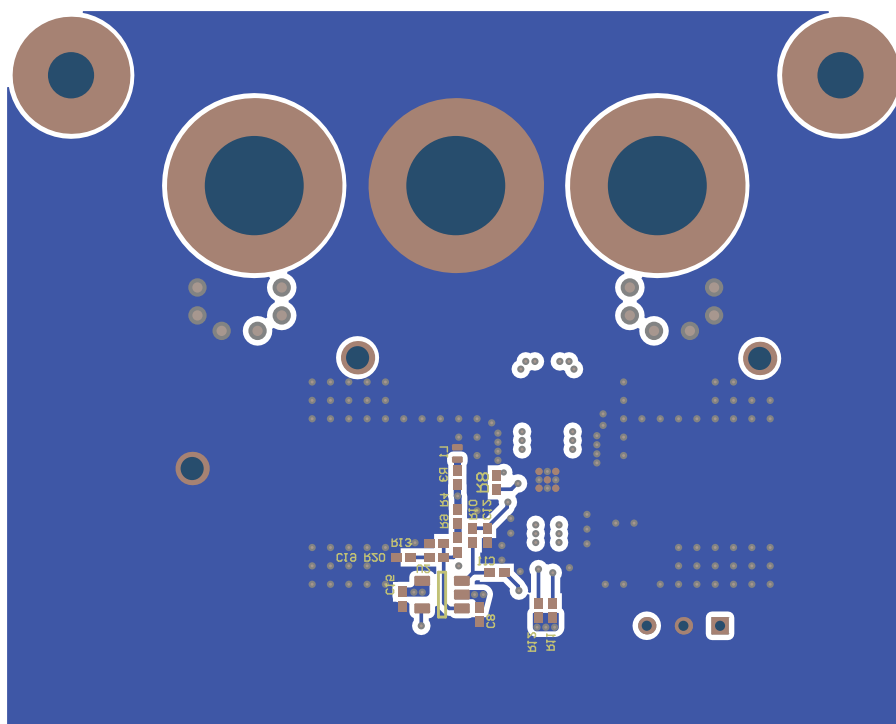

Figure 8-12. Layout Example: Bottom Layer
- **High precision signal path:** consisting of the precision op amp along with discrete components, the signal path can be adjusted and moved around to give precedence to the two previous points. In the Figure 8-12, the precision components are placed on the opposite side of the PCB as the BUF802.